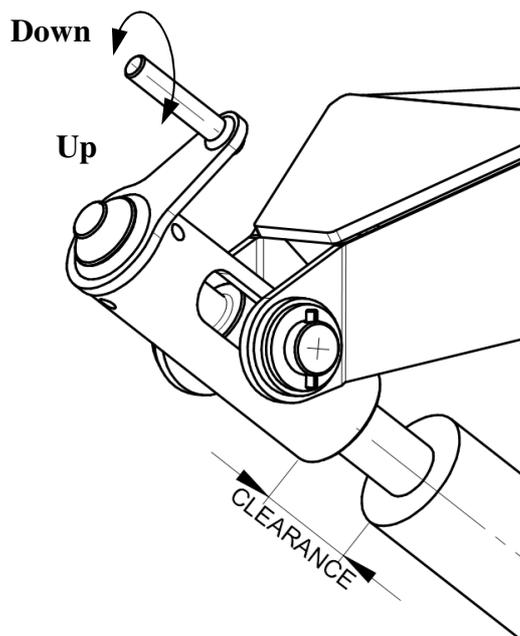
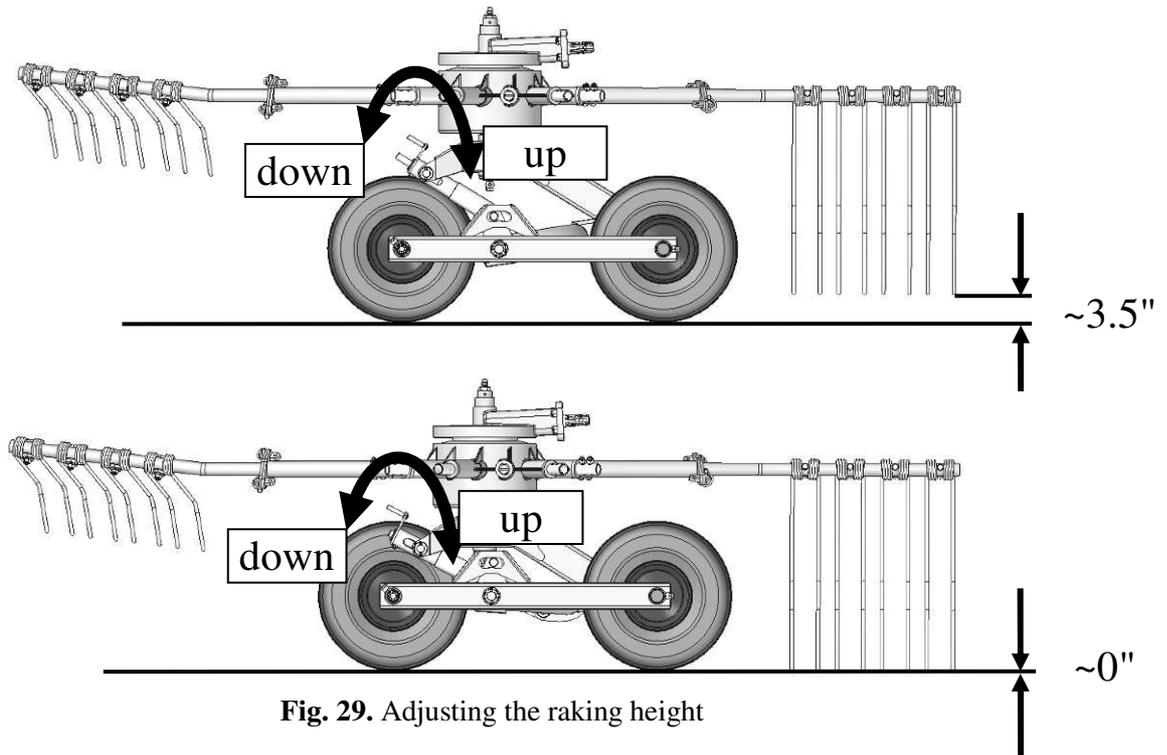

Fig. 28. Cart adjustment clearance
Fig. 29. Adjusting the raking height
- ❑ Pre-adjust the raking height with knobs on both the rear and the front rotor as provided in **Fig. 28, Fig. 29**,